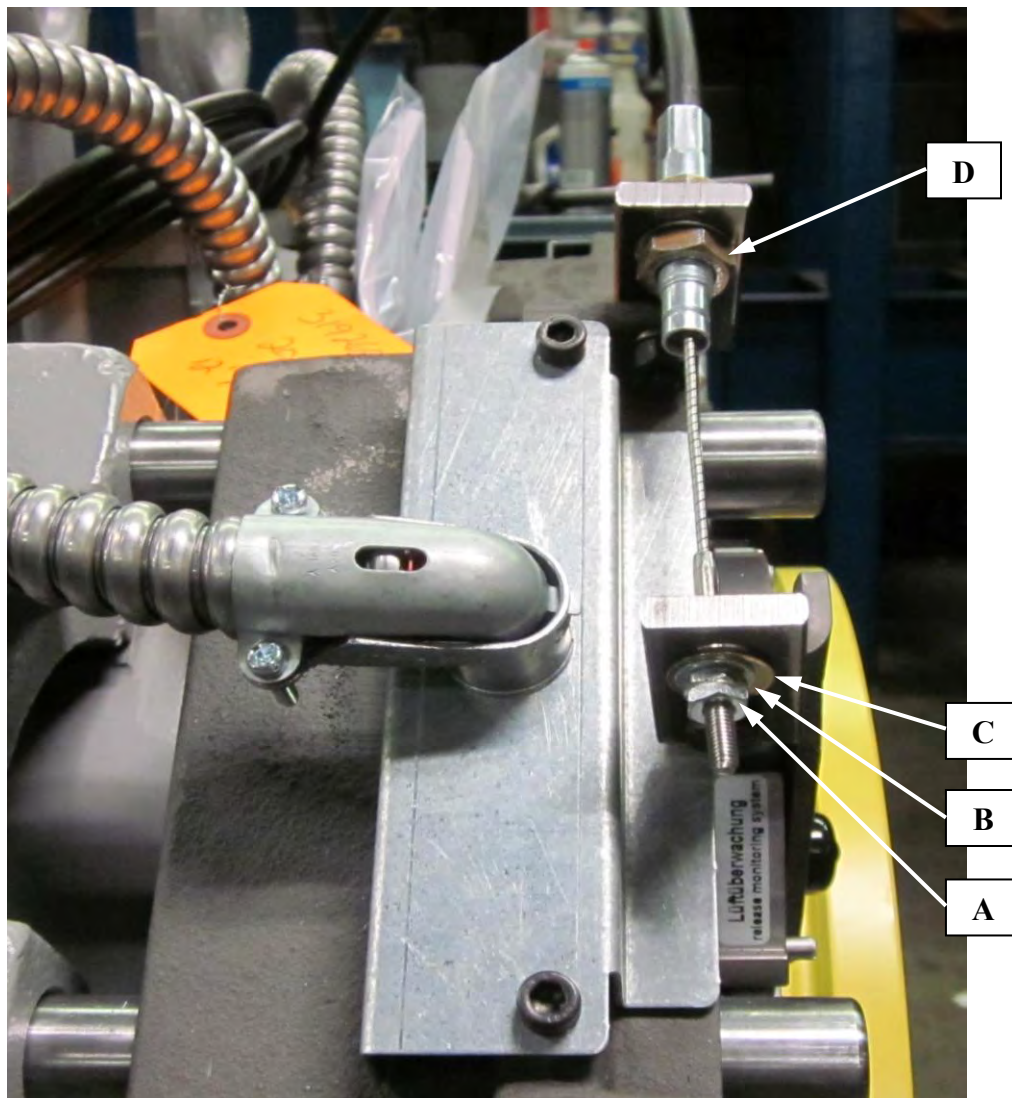

Figure 1
- For machines equipped with the Hollister-Whitney manual brake release cable, begin by removing jam nut "A", nut "B" and washer "C." Then, undo nut "D." Refer to Figure 1.